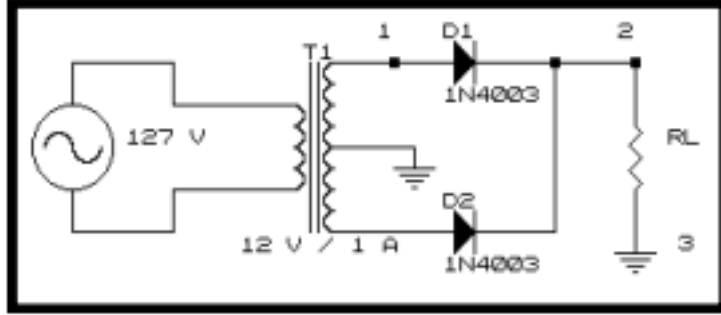
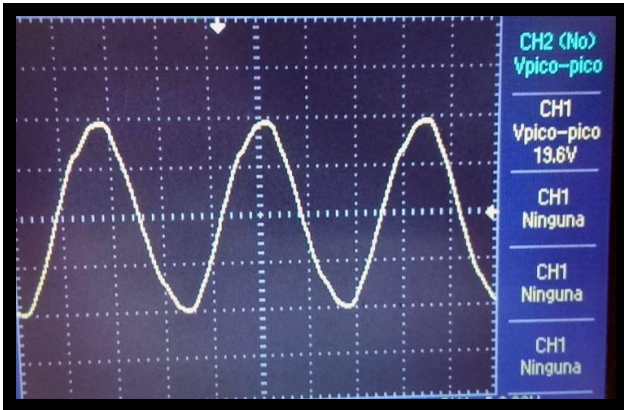
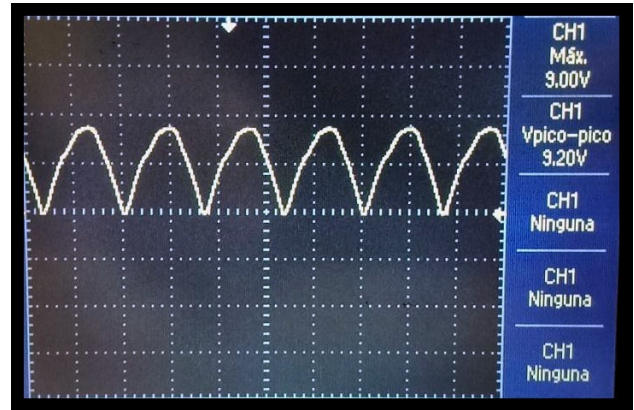

Figure 3.4.0: Full-wave center-taped rectifier.
Figure 3.4.1: Transformer output signal.
Figure 3.4.2: Full-wave rectified signal.
Using the  $100\Omega$  resistor as  $R_L$  and two 1N4003 diodes, the circuit of the Figure 3.4.0 was assembled.
For measure the signal before being rectified, we put the positive terminal of the voltmeter in the terminal 1 of the Figure 3.4.0 and the negative terminal of the voltmeter in the terminal 3 of the Figure 3.4.0. We will call this voltage  $V_T$  (Transformer Voltage).
In the same terminals ( 1 and 3 ), of the Figure 3.4.0, the terminals of the oscilloscope were connected same as the voltmeter. Now, as can we see in Figure 3.4.1, the signal isn't being rectified yet. To visualize the rectified signal, the terminals of the oscilloscope were connected to the terminals 2 and 3 of the Figure 3.4.0. Now, as we can see in Figure 3.4.2 the signal is rectified from A.C to D.C. Now there's no negative voltage.
To measure the voltage in  $R_L$ , its necessary to connect the positive terminal of the voltmeter in the terminal 2 of the Figure 3.4.0 and the negative terminal of the voltmeter in the terminal 3 of the Figure 3.4.0. We will call this voltage  $V_0$ , also the resistor  $R_L$  will have a current, we will call it  $I_0$  and with Ohm's Law we can find it.
- *For  $V_p$  ( Peak Voltage ) of Figure 3.4.1:*
When the terminals of the oscilloscope are connected to the circuit and the signal it's displayed on screen as Figures 3.4.1 shows. We will put the oscilloscope in the option *measures* and search for the option *Max Voltage*.
Using basically the same circuit of the Figure 3.4.0, we are going to connect in parallel to the  $R_L$  **resistor** a **electrolytic capacitor**, this device will act like a filter. The voltage coming out from rectifiers is not smooth and a filter rectifier circuit is used to smoothen it for more stable constant DC voltage. We are going to be exchanging between two different capacitors, one of  $470\mu F$  and another of  $2200\mu F$ .